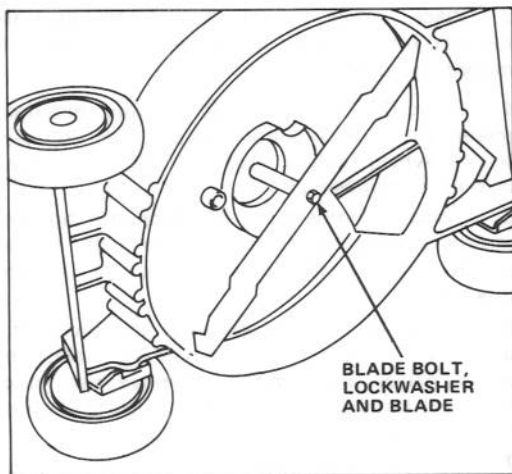

Figure 17
3. Tip mower onto its right side (Fig. 17). Avoid rotating blade. Starting problems may result.
5. **REMOVING BLADE** — Grasp end of blade using a rag or thickly padded glove. Remove blade bolt, lock washer and blade (Fig. 17).